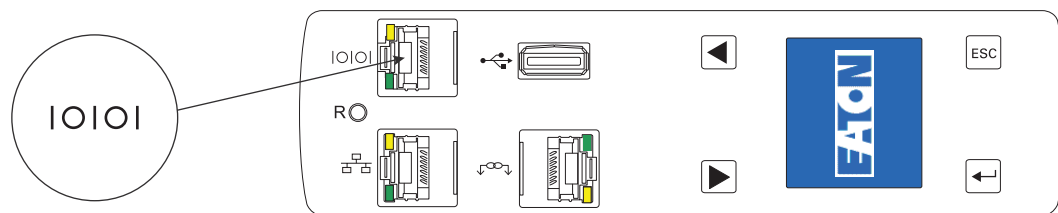

Figure 32. Connecting to a Computer Serial Port (OU Models)
3. Connect the RJ-45 end of the cable to the RS-232 connector on the front panel of your ePDU model (see Figure 32). Connect the DB9 end of the cable to the serial connector on the computer.